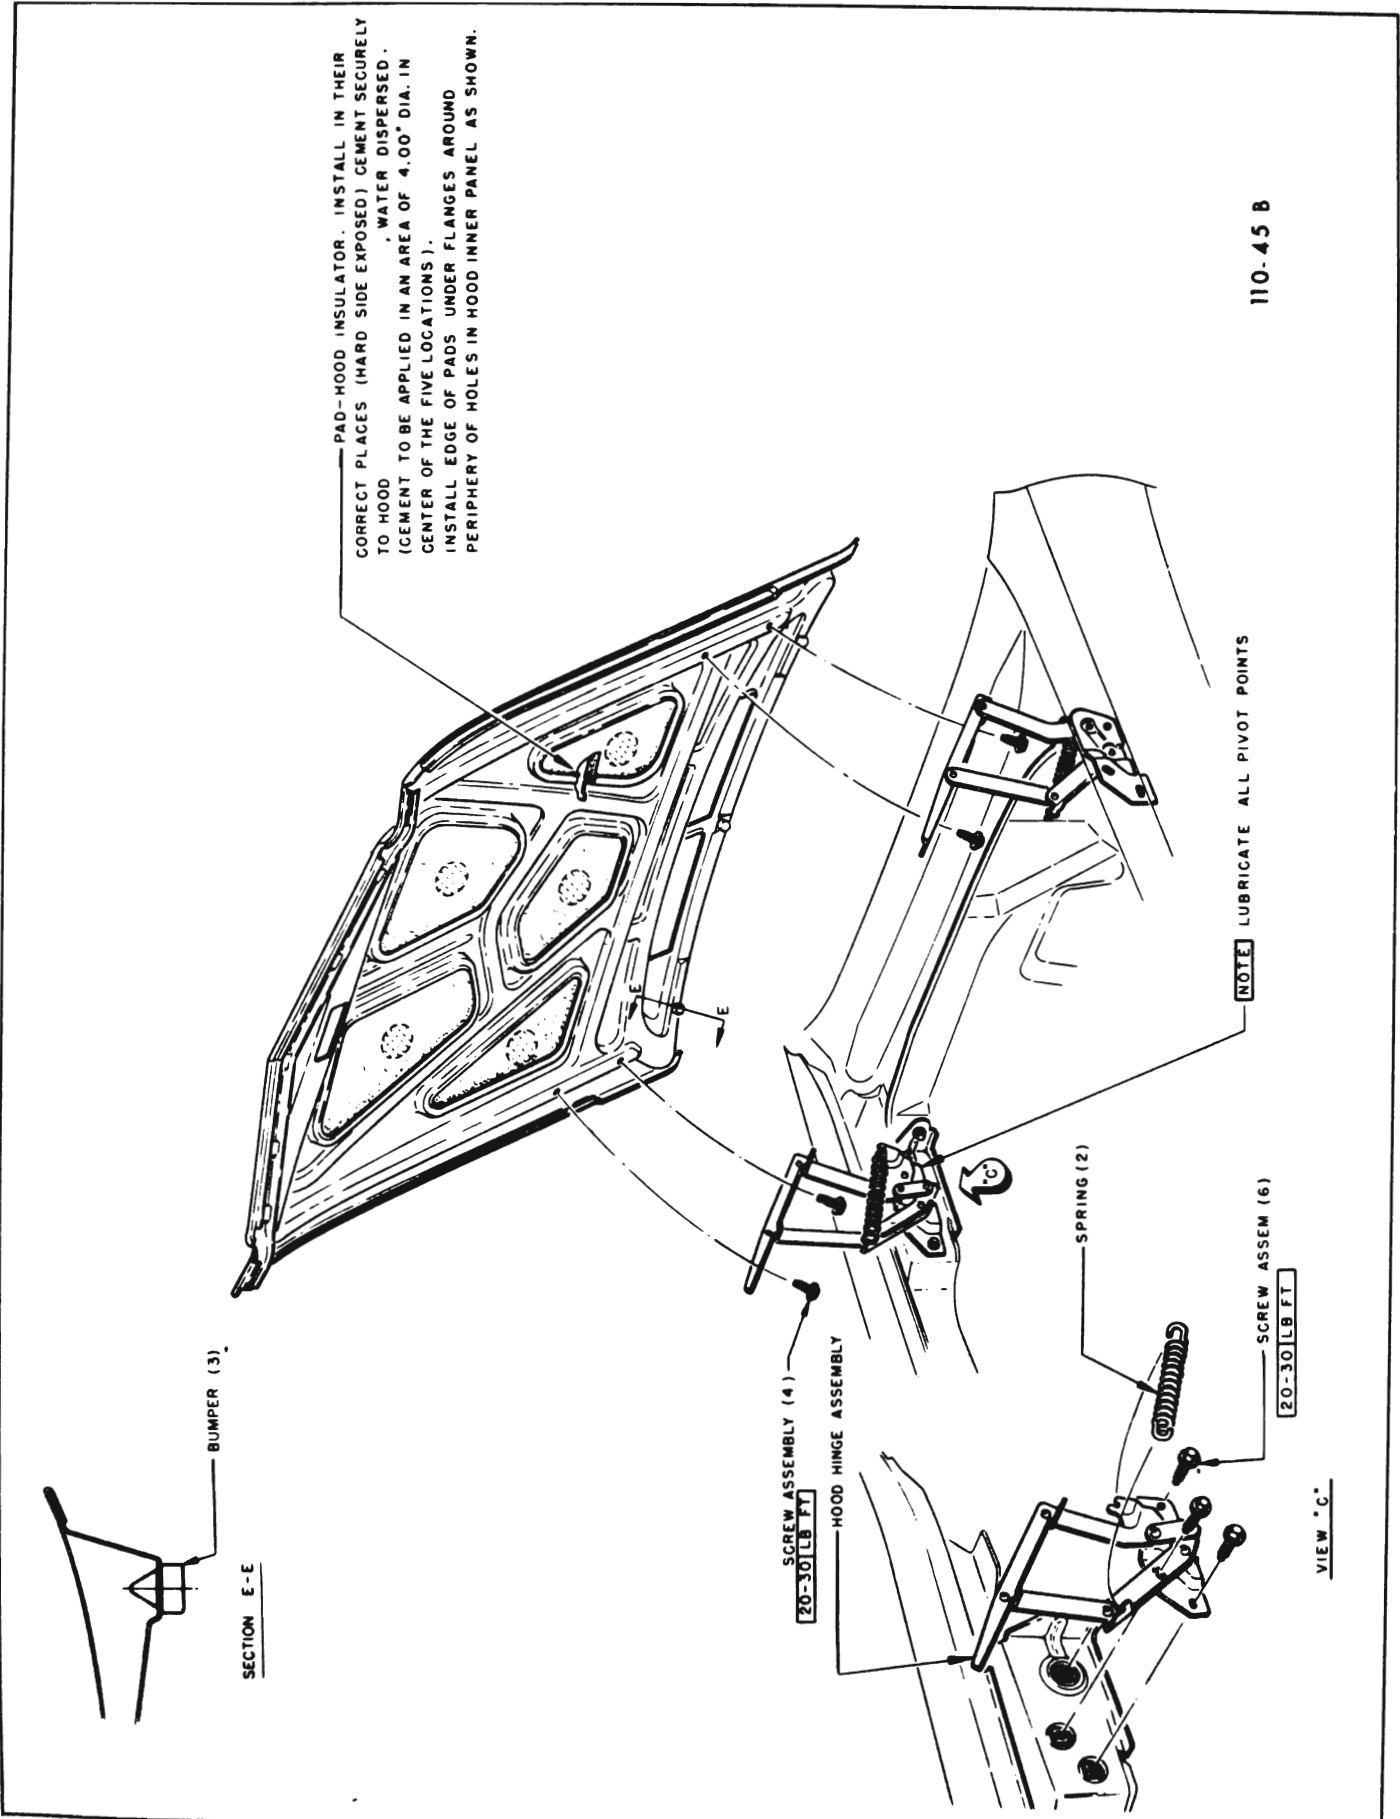

Figure 110-10 43-44000 Hood Hinge Spring
1. To remove hood hinge spring, insert Remover and Installer J-9214 through loop in forward end of spring with bend of tool approximately one inch from loop. Using inside corner formed by hinge as a pivot, unseat spring from notch. See Figure 110-10.